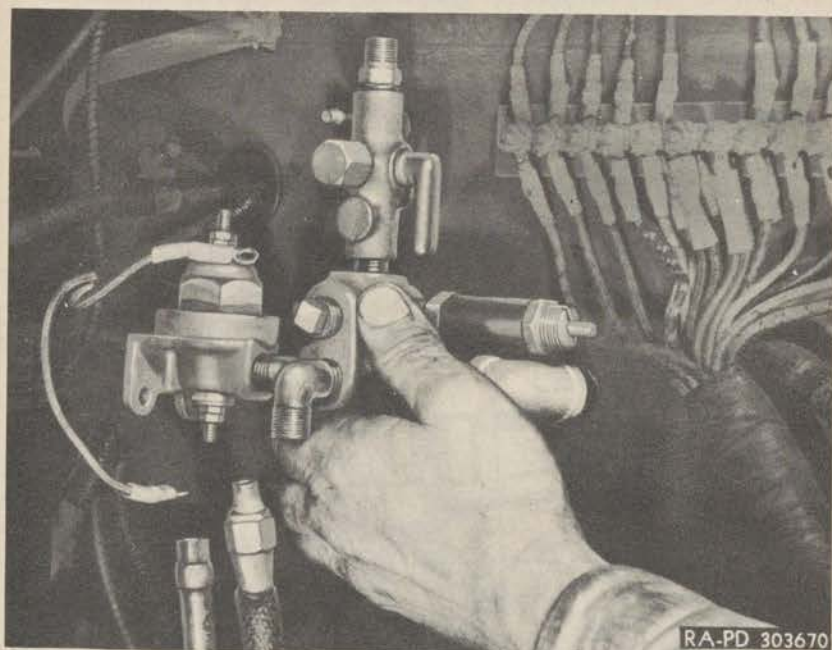

Figure 131—Removing Air Supply Valve, Safety Valve and Low Pressure Indicator Assembly
(5) **REMOVE ASSEMBLY.** Remove the nuts and lock washers attaching the air supply valve and the manifold fitting to the dash and remove the assembly (fig. 131).